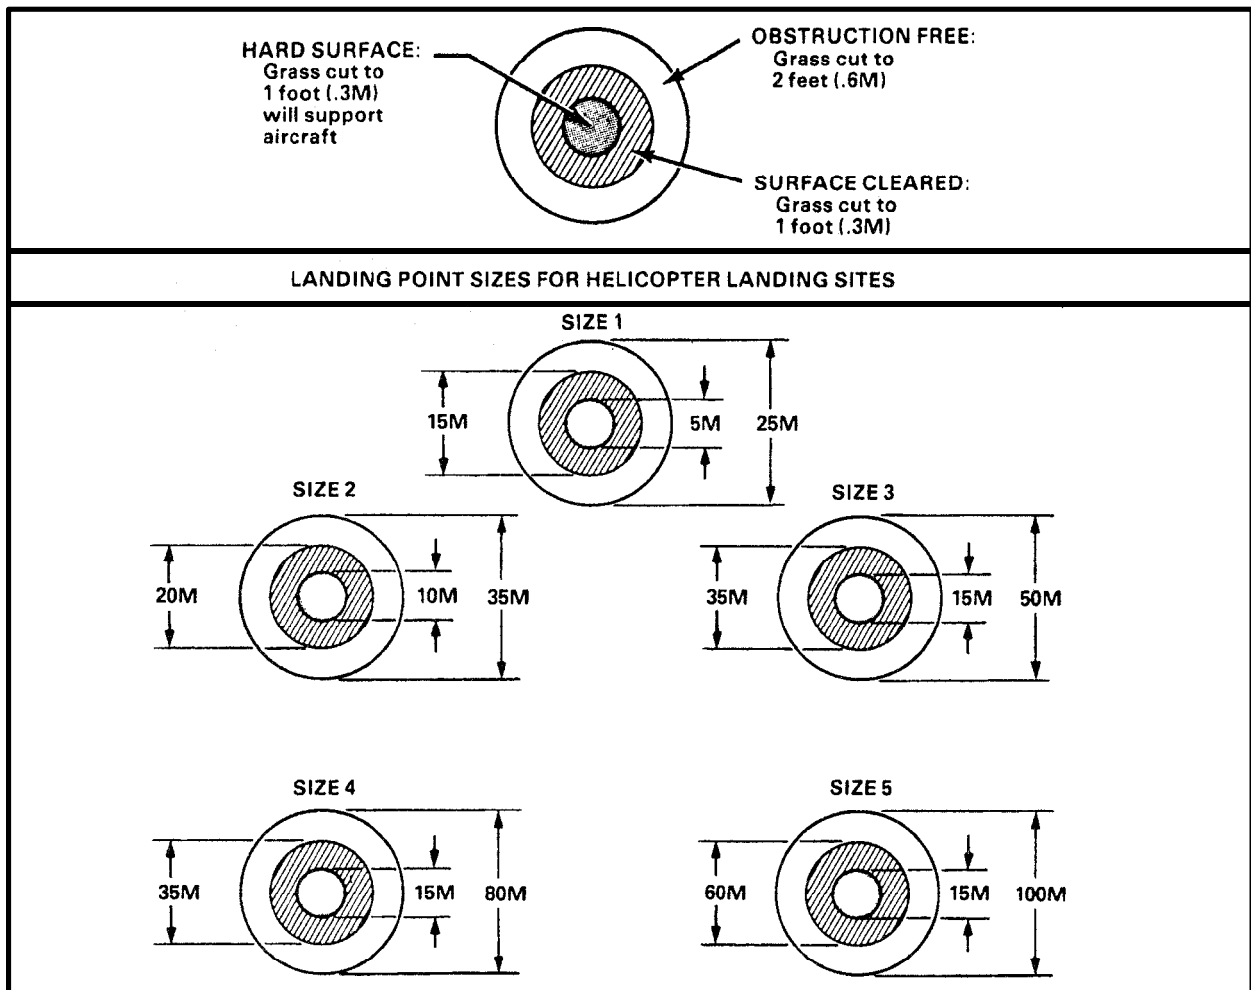

Figure 4-2. Required Landing Point Characteristics
Each landing point must be level and firm enough to keep a fully loaded aircraft's landing gear from sinking into the ground. The ground is firm enough for size 1 and 2 helicopters if it can support a 1 1/4-ton truck. If the ground can support a 5-ton truck, size 3 through 5 helicopters can land without risk of sinking. The entire landing point must be cleared of any loose material or debris to prevent it from being blown into the ground crew or rotor blades, or drawn into the helicopter engines. Figure 4-2 shows the three different areas and conditions for each size landing point.
**d. Night Operations.** During night operations, as the pilot gets closer to the landing point, he needs a wider area for a safe approach than just the 16-degree sector. Therefore, the minimum width of the approach and exit path, illustrated by the darker shaded area, must be equal to or wider than the width of the landing point that must be cleared to a maximum height of 2 feet (Figure 4-2). The length of the minimum width area, dimension X, will vary depending on the size of the landing point. See Table 4-2.
Follow along as we use a UH-60 Blackhawk as an example to help clarify the night approach and exit path criteria. Table 4-1 identifies the UH-60 Blackhawk as a size 3 helicopter. Next we must determine the landing point area that must be free from obstructions and grass cut to maximum height of 2 feet. Figure 4-2 indicates 50 meters as that area for a size 3 landing point. Therefore, the minimum width of the night approach and exit path is 50 meters. The minimum width distance intersects the 16-degree V-shaped arc (night approach and exit path) 180 meters from the center of the landing point. In other words, the night maximum obstruction angle applies to the complete approach and exit path; both the rectangular-shaped wedge (dark shaded area of the diagram) as well as the 16-degree V-shaped arc (light shaded area and dotted line).